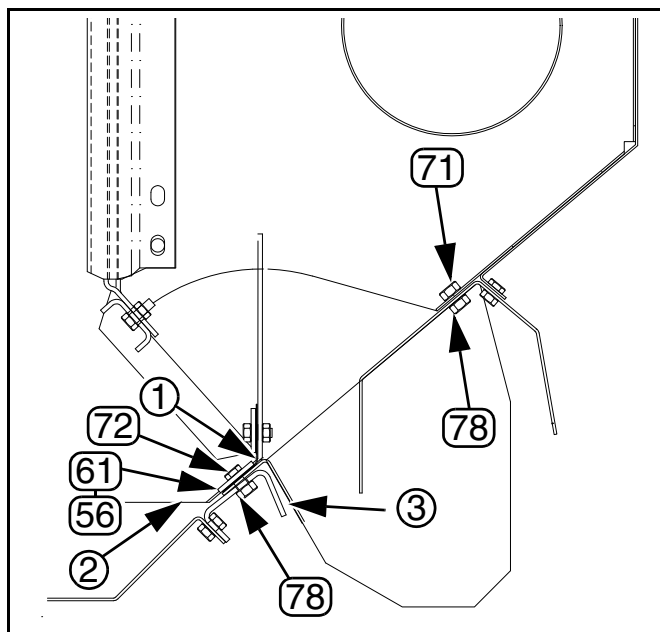

Figure 23
**Refer to Figure 23**
18. Place the two center clamp strips (61) on the rubber belting hinge (1). The two center clamp strips must be on either side of the center partition (2).
19. Place an end clamp strip (56) at both ends of the rubber belting hinge.
20. Secure the four hinge clamp strips, rubber belting hinge, fertilizer tray and channel using 1/4-20 x 1 bolts (69) and 1/4-20 hex flange lock nuts (78).
21. Attach the rear of fertilizer tray to the main seed box using 1/4-20 x 5/8 bolts (71) and 1/4-20 hex flange lock nuts (78).
23. Carefully inspect the inside of the fertilizer compartment for gaps that could leak fertilizer. Use the silicone (90) (not shown) provided in the kit to seal any gaps.